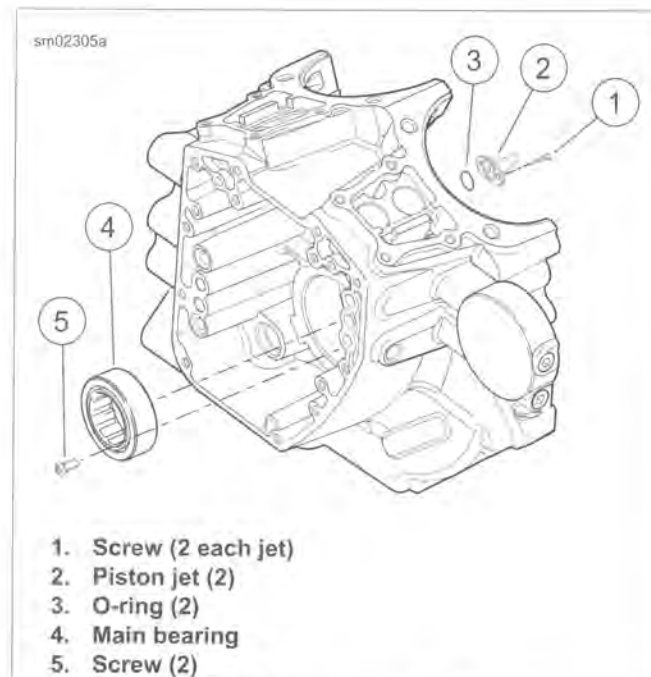

Figure 3-123. Piston Jets
1. See Figure 3-123. Remove two main bearing retaining screws (5) from the cam compartment side.
10. See Figure 3-123. Install two **new** main bearing retaining screws (5) from the cam compartment side. Tighten screws to 40-70 **in-lbs** (4.5-7.9 Nm).
1. See Figure 3-123. Remove two screws (1) to free piston jet (2) from crankcase.
2. Remove O-ring (3) from groove in mounting flange of jet. Discard O-ring.
1. See Figure 3-123. Apply a very thin film of clean engine oil to **new** O-ring (3). Install **new** O-ring in groove of jet mounting flange.
2. With jet pointed upward, secure piston jet (2) with two screws (1). Tighten to 25-35 **in-lbs** (2.8-3.9 Nm).